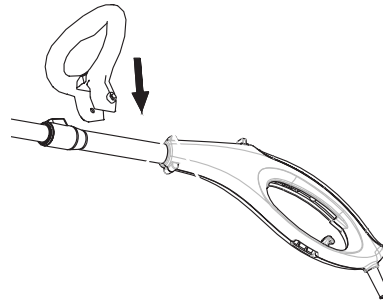

Fig. 3
2. Place the assist handle on the upper shaft (some force is required) Fig 3.